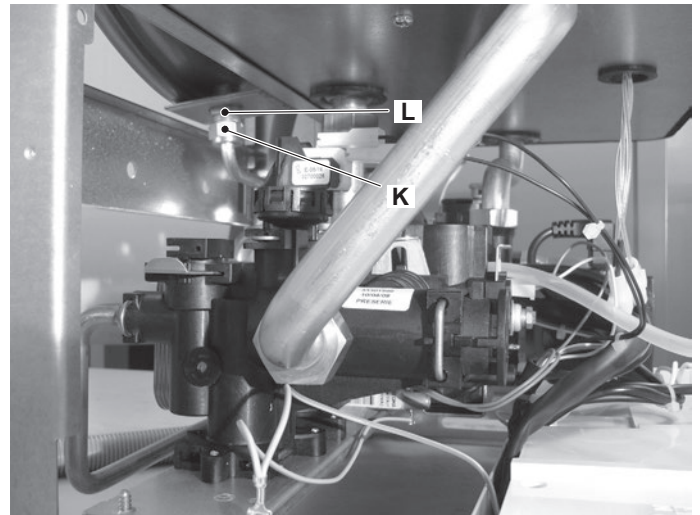

Figure 11.2
- 2 Completely unscrew the connection K, the locknut L (Figure 11.2) and remove the expansion vessel from the top of the boiler.